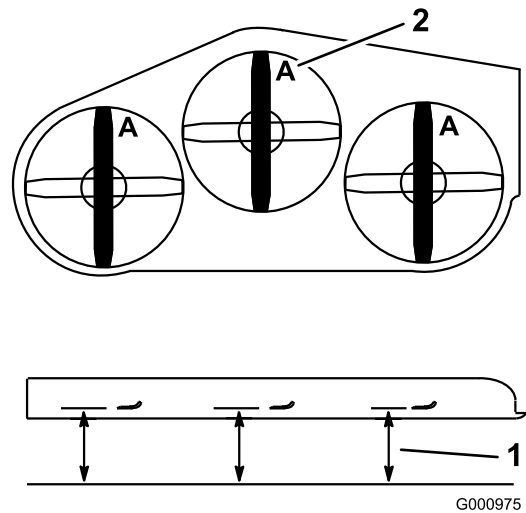

Figure 90
1. Rotate the blades until the ends face forward and backward (Figure 90). Measure from a level surface to the cutting edge, position A, of the blades (Figure 90). Note this dimension.